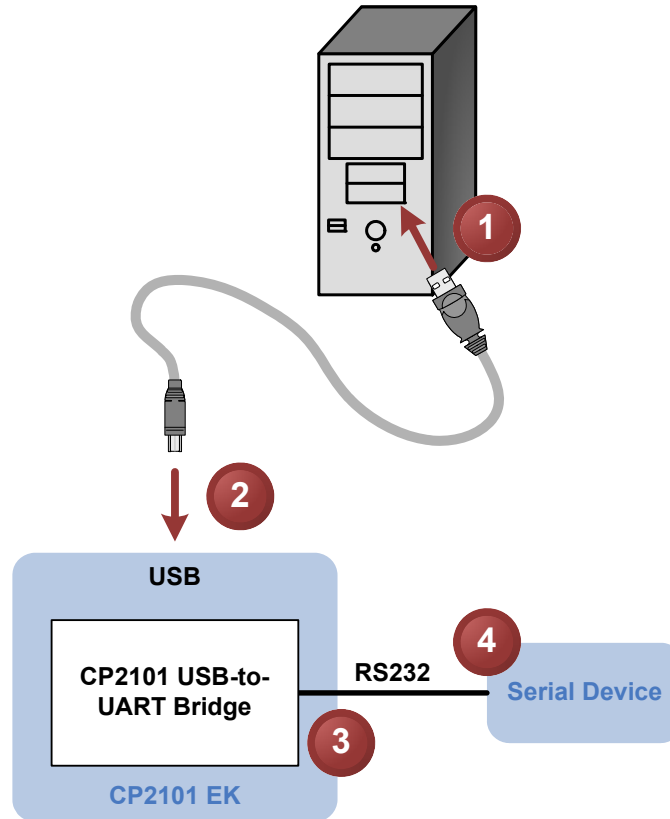
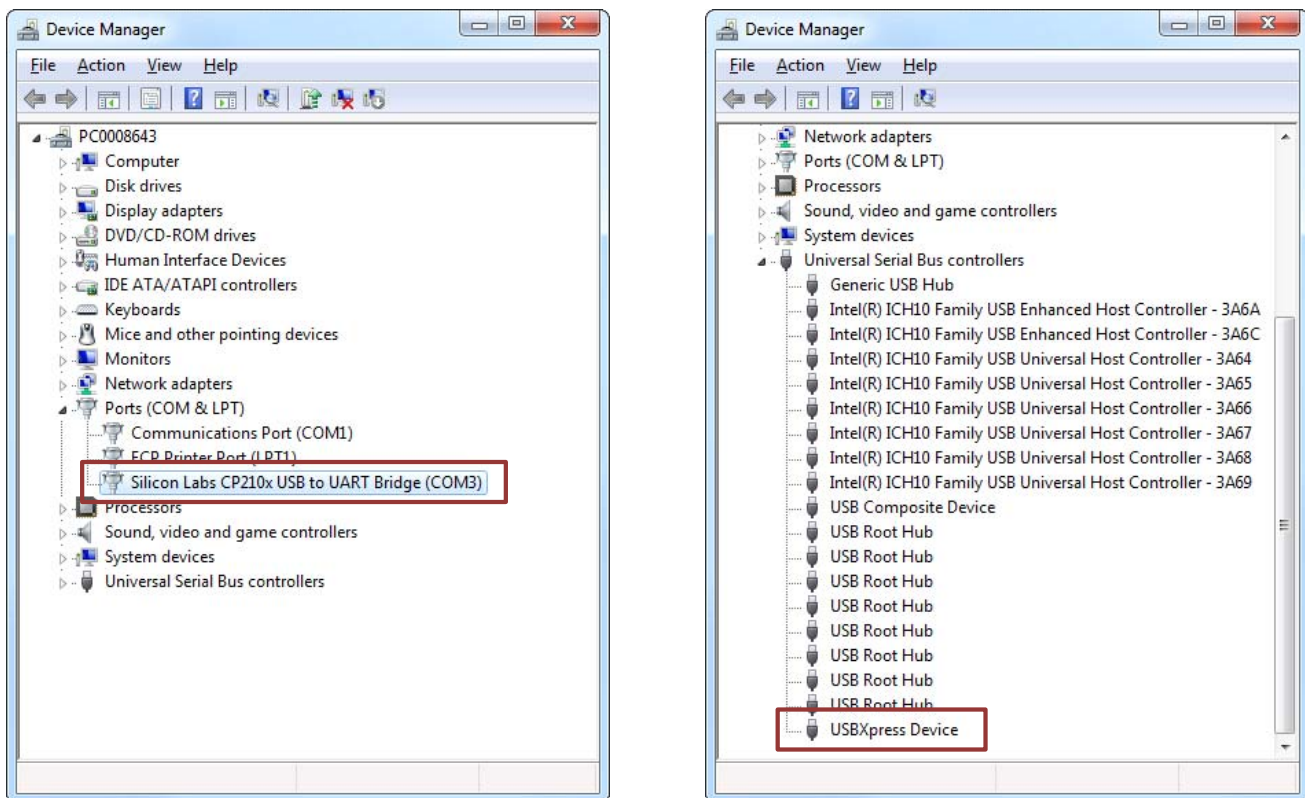

Figure 1. Hardware Setup
Figure 2. CP2101 in Device Manager
The evaluation board is connected to a PC as shown in Figure 1.
If the Virtual COM Port drivers are used, the CP2101 will appear as a COM port in the Device Manager, as shown in Figure 2. The CP2101 will always use the lowest available COM port for operation. For instance, if COM ports 1 and 2 are in use by other peripherals and applications, the CP2101 will use COM 3.
If the USBXpress drivers are used, the CP2101 will appear as a USB USBXpress device as shown in Figure 2. Examples for how to communicate with the device using the USBXpress interface are included in AN169 on the www.silabs.com/interface-appnotes page.
- Updated Figure 1 and Figure 2.